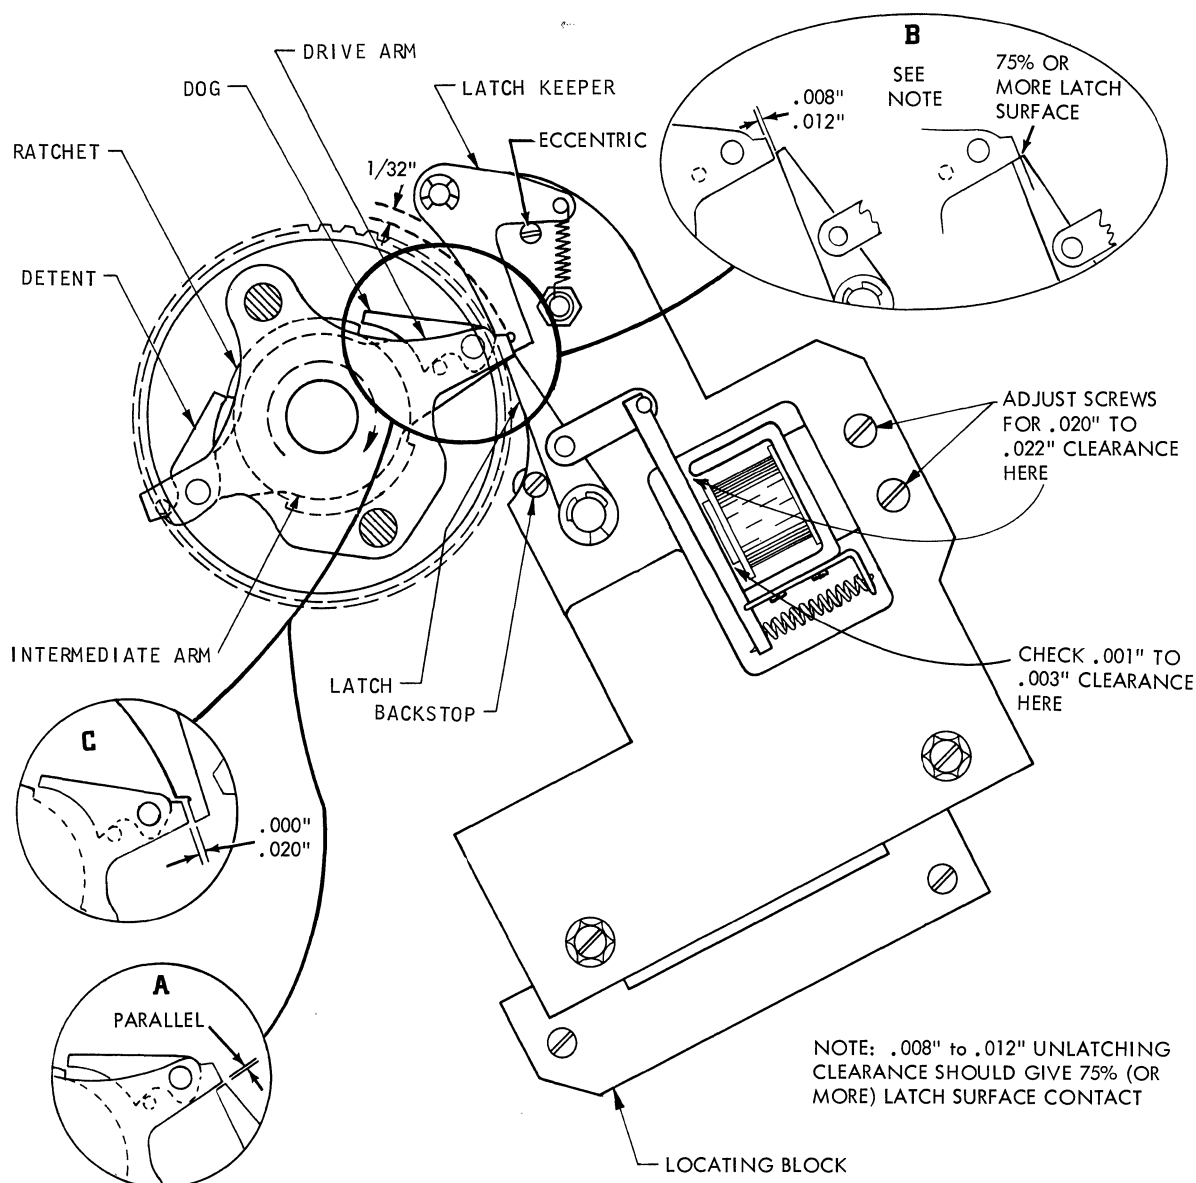

Figure 2-4. Magnet Assembly Adjustments
To see the engaging action of the clutch, assume the clutch is latched as shown in Figure 2-4.
5. Adjust armature pivot bracket to maintain .002" to .005" clearance between armature and core (Figure 2-4).
6. There should be .020" to .022" clearance between armature and yoke with latch against backstop (Figure 2-4).